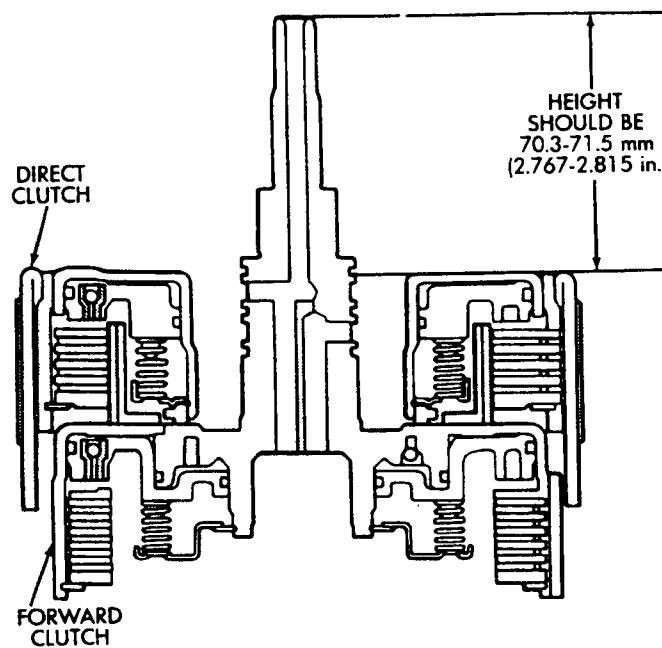

**Fig. 11 Installing Direct Clutch Discs And Plates**
- (4) Install clutch discs and plates (Fig. 11). Install plate then disc until all plates and discs are installed. Use four plates and discs in 6-cyl. transmissions and three plates and discs in 4-cyl. transmissions.